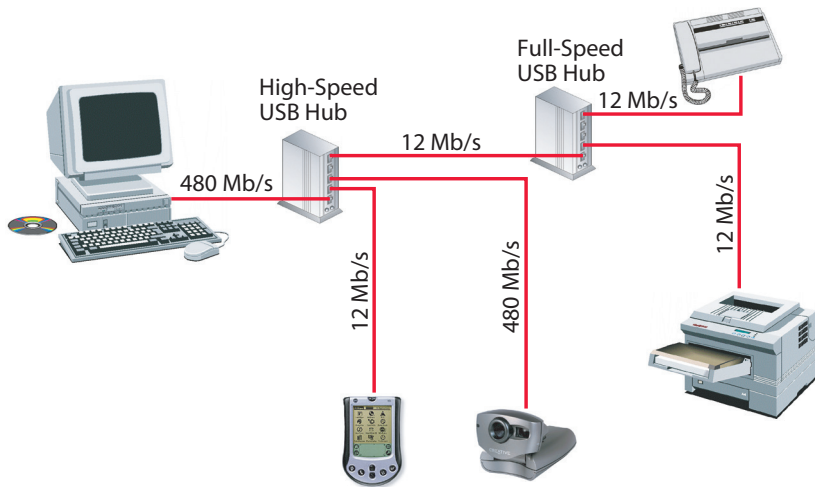

Figure 1. USB systems can manage all three data rates concurrently.
USB 2.0 is an evolution of the former USB 1.1 specification, with a higher-performance interface. All three speeds can operate together in a hi-speed USB system, as shown in Figure 1. Today's low/full speed connectors and cables will support the higher speeds of 480 Mb/s without any changes. In this figure, hi-speed connections are negotiated between the root hub (in the host PC) and the external hi-speed (HS) hub, and between the external HS hub and the video conferencing camera (a HS USB peripheral). All other connections are at full speed USB data rates. The external HS hub is capable of supporting all three data speeds on its downstream ports. Any downstream port of a HS USB hub can support the dynamic attachment of any speed USB device.